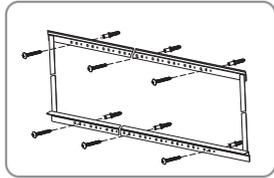

Figure 26
- b. Concrete wall installation: Follow the screen installation step 3 and drill six proper holes through the concrete wall with electrical drill, and then nail the screw anchors into the done holes on the wall. Fix the $\phi 5 \times 40$ mm tapping screws to the holes on the wall through the holes in the top and bottom installation bars, three sets of screws on each bar. (Figure 26)